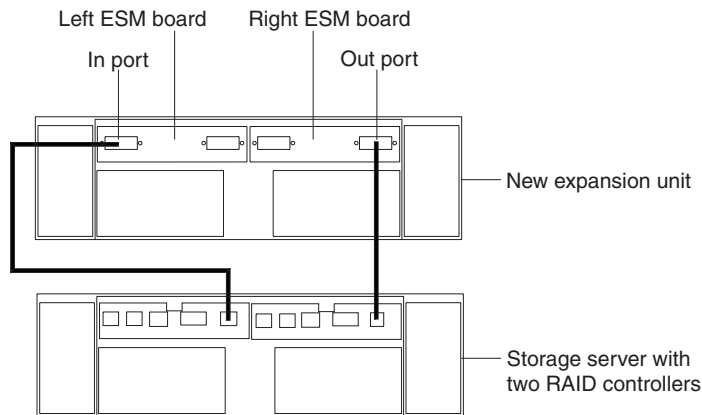

Figure 41. Adding a storage expansion enclosure
2. Use the following procedure and Figure 41 on page 44 to connect a single storage expansion enclosure to the storage server: